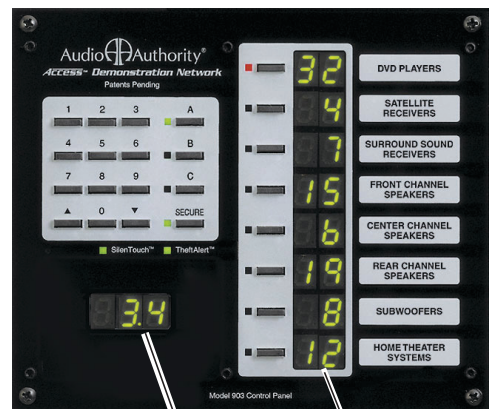

Figure 4.
- a. Make a note of the last group number displayed in the Product Group windows and the module number shown in the Info Display find the two modules that both have this address. For example, if the control panel is flashing, the Info Display shows 002, and the third Product Group window shows S4, you would look for two speaker modules (932) with the same address of “Group 4, Module 02, Right.”
- d. As each new group number appears in a PG window (*Product Group, Figure 4*), the Info Display counts up the number of modules in that group that can be recognized. Write down the highest number reported in the Info Display and the Group number with it. For each group, compare the reported module tally with a physical count of the modules.